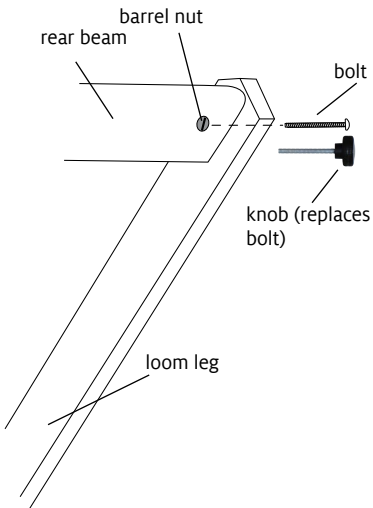

FIGURE 3: REAR BEAM - RIGHT SIDE
2. Using a Phillips screwdriver, remove the bolt from the top of the right leg (figure 3), while holding the barrel nut in place in the rear beam. Insert a knob through the leg, into the barrel nut, and tighten.
5. Remove the knob from the top of the leg on the right side of the loom (figure 3).
2. Hold the barrel nut in the hole in the rear beam on the right side. Insert the knob through the leg and into the barrel nut (figure 3). Tighten the knob to secure.